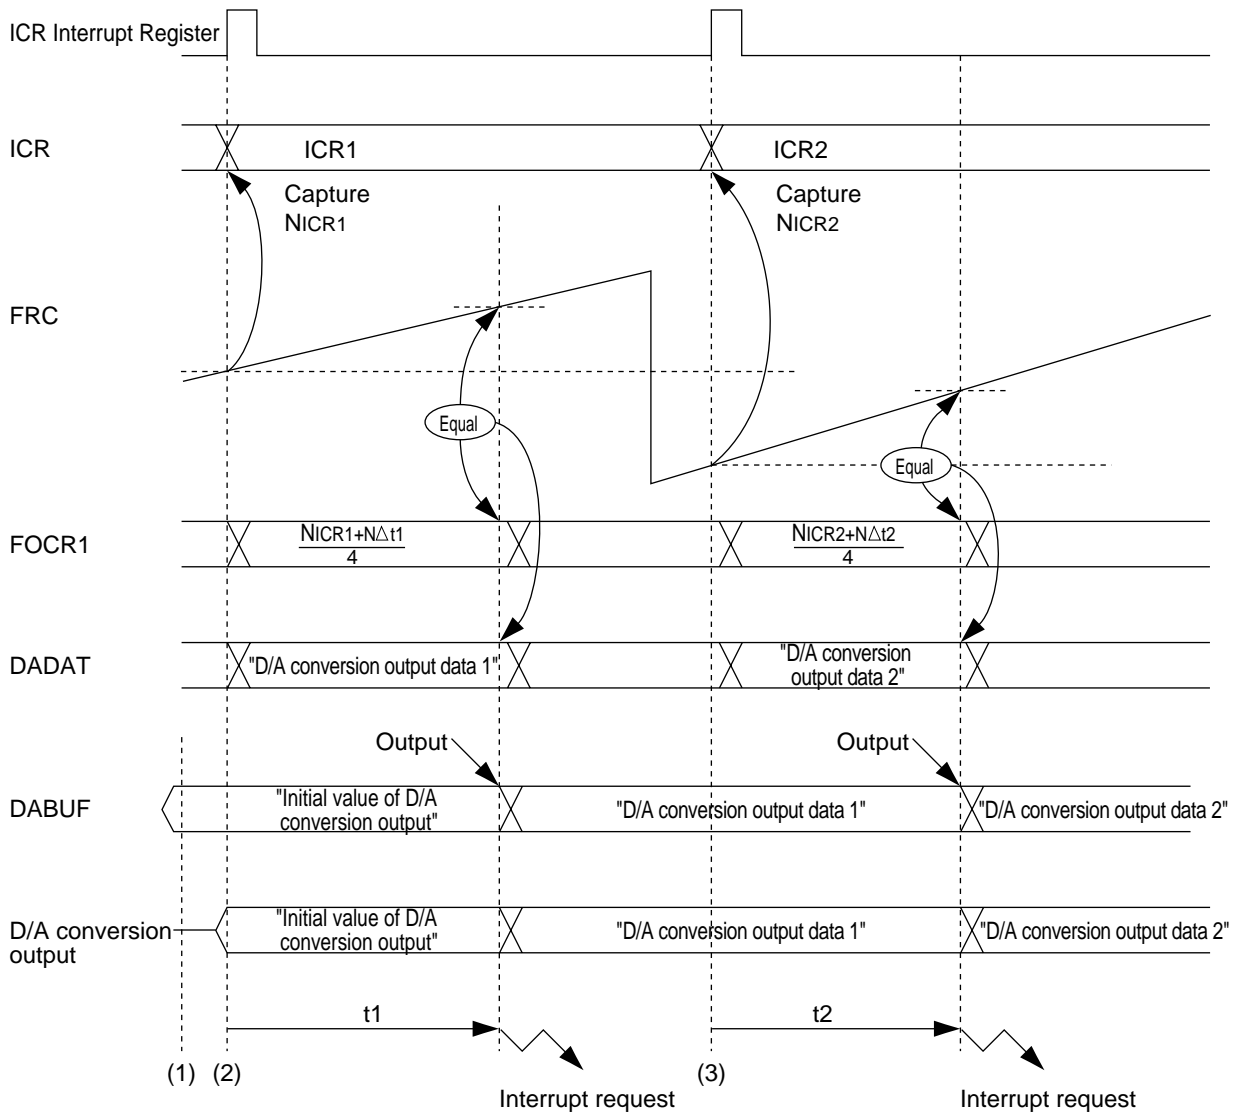

Figure 8-5-1 Synchronous Output of D/A Conversion, Example
(1) At time (1) in Figure 8-5-1, set the following: initial values for each output data, synchronous output timing, and output data.